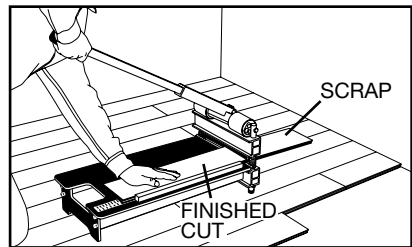
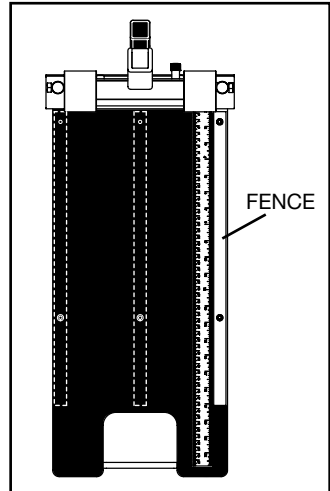

Figure 6
Figure 7
**MAKING CUTS:** Place the material to be cut on the bed of the cutter and slide it against the fence (see below and Figure 7) and beneath the blade. Keep hands away from the blade and out from under the blade carrier. Note that the blade produces the cleanest edge from its inner (bed facing) edge surface only. The cut piece remaining on the bed will be the finished cut, and the piece beyond the blade will be scrap (Figure 6).
Push down on the leverage handle with one hand, keeping the other hand on top of the material being cut. (See Figure 6.) **HAND PRESSURE** should be used to power the cutter, not foot pressure, body weight, other weight, or impact on the leverage handle. Keeping a hand on the material prevents it from moving and ensures an accurate cut. Keep hands away from the blade, blade carrier, and pressure rollers at all times, and keep hands out from under the material being cut. Stay alert and watch the cutting process at all times.
The fence of the cutter is movable to any one of three straight positions (Figure 7). Moving the fence helps position the material being cut under different areas of the blade, so that as areas of the blade become dull, other areas that are still sharp can be more easily used. Cutting under different areas of the blade also wears the sides of the cutter mechanism more evenly over time, extending the life of the tool. Cutting mostly under one side can wear out the cutter sooner.
To move the fence, remove the two wing nuts from beneath the bed, and remove the fence. Insert the fence into any pair of holes as shown in Figure 7, then reattach and tighten the wing nuts.